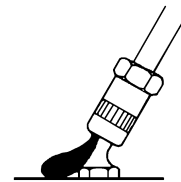

Fig.3
- 4) After lubrication, remove coupler from grease nipple by tilting it sideways. (Fig.3)